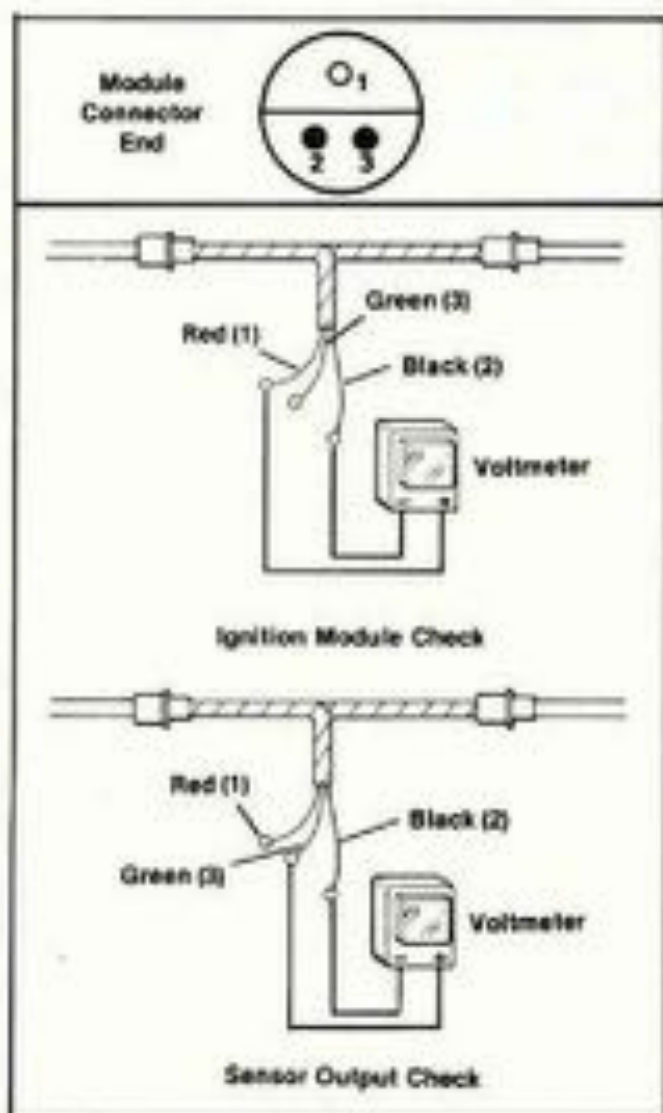

Figure 8-8. Ignition Test Adapter
9. After replacing the module reconnect the sensor plate using the test adapter (Figure 8-8). Recheck voltage from the red lead to the black lead. Connect the voltmeter from the green lead to the black lead to check sensor output. This output should be  $5.0 \pm .5$  volts when the slot is not present at the sensor and should be 0 to 1 volt when the slot is at the sensor. A screwdriver blade can be inserted between the sensor and magnet as a substitute for the rotor to check the sensor output. If these voltages are not present, the sensor plate must be replaced.